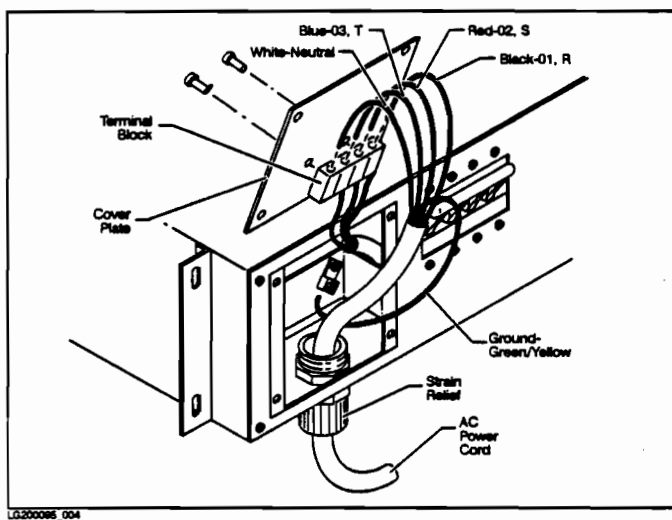

Figure 3-11. Power Cord Installation - ACDC AC Unit
Wires are labeled from left to right when viewing the terminal block from the top. Refer to Figure 3-11 and proceed as follows:
1. Remove the access cover plate, as shown in Figure 3-11.